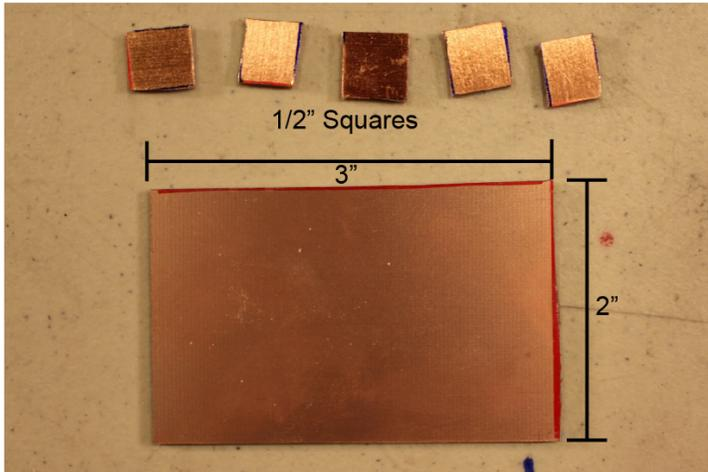

Figure 1
*Note: In this tutorial, the copper ground plate size I use is 2" x 3". (See figure 1) This size is not important, it just needs to be big enough able to fit all the components. In fact, making a 3" x 3" plate could be easier to solder to if you are new to the process. The exact size is up to you.